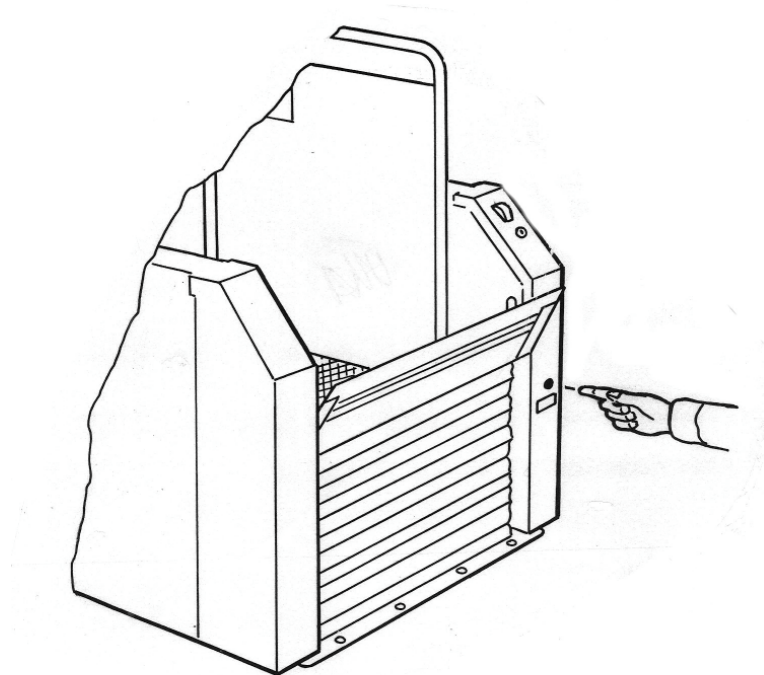

Fig. 9
- **EMERGENCY LOWERING** Fitted standard, refer to page 10 and fig. 9 - "Failure during operation" for full details.